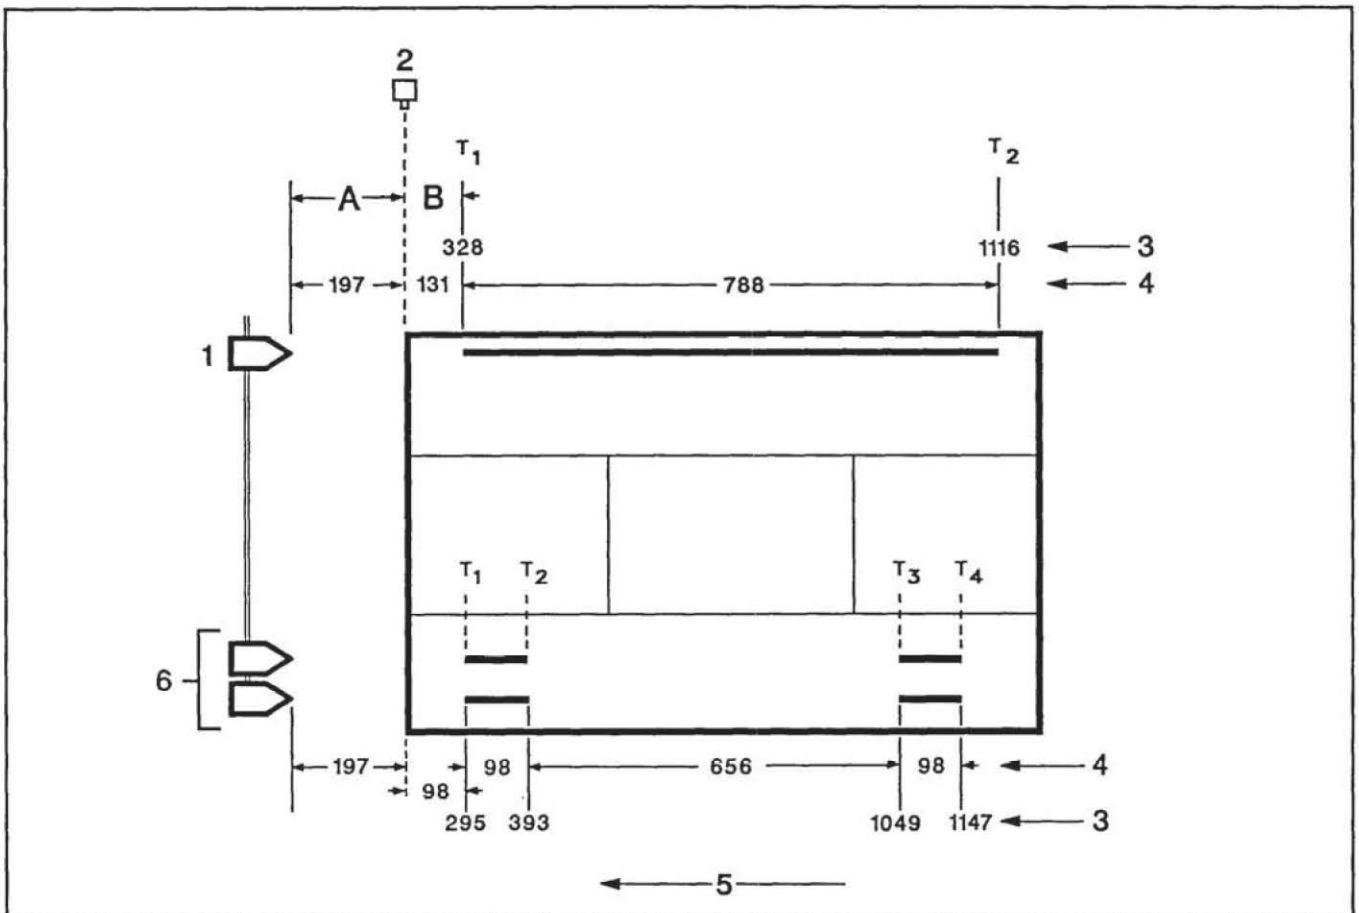

Figure 4.7 - Example 1 transitions changed to time values
**Illustrated Pattern Parameters** - Figure 4.7 shows the converted time values (transitions) for this example. Figure 4.8 shows how the parameters are recorded on the pattern log for this example.